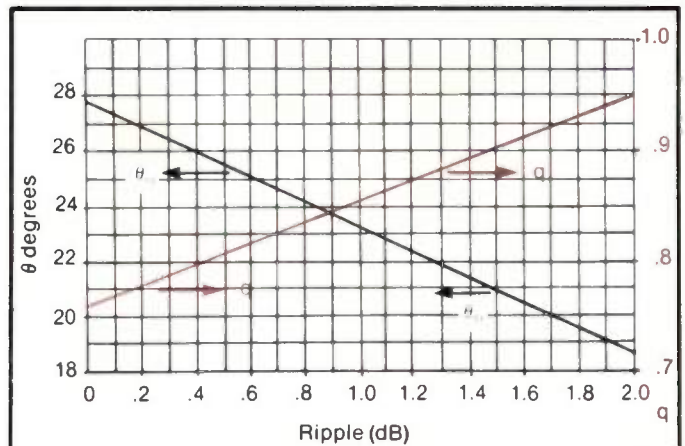
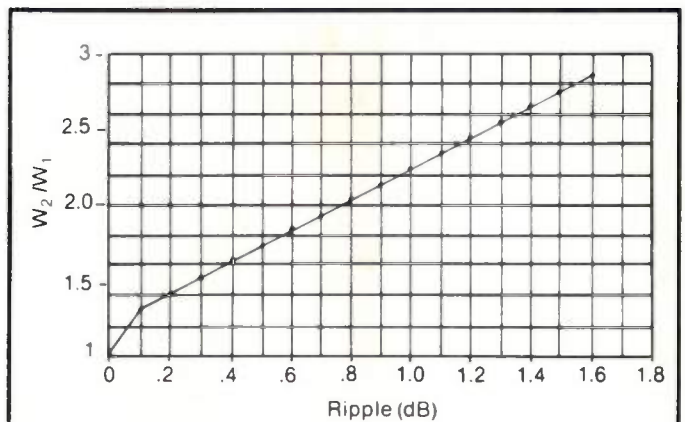

Figure 7. Passband Ripple (dB) vs. Electrical l & Center Frequency Shift.
Figure 8. Passband Ripple vs. Bandwidth Ratio.
function of y for $y \in (0, 49.5]$. Therefore a solution (or more) must exist for $\epsilon \in (0, 49.5]$. To find the solution for $G(y)$, conventional bi-section method can be used with the help of a computer or just a hand calculator. After y has been found, θ_0 can be obtained from (20) and q by $q = y/\theta_0$. Using passband ripple as a design parameter, Figure 7 shows the relationship of q and θ_0 to the passband ripple. Figure 8 shows the bandwidth ratio as a function of passband ripple. The design procedures for the broadband quadrature hybrid of Figure 1 are summarized as follows:
2. Find y from (22) and θ_0 from (20) and $q = y/\theta_0$ or from Figure 7 and Figure 8.